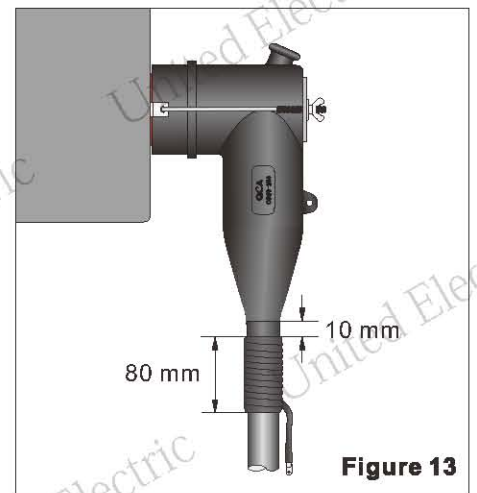

**Figure 11**
- Pull out the plastic slice while push the connector body onto the bushing, to release air pressure inside the connector body. (figure 11)